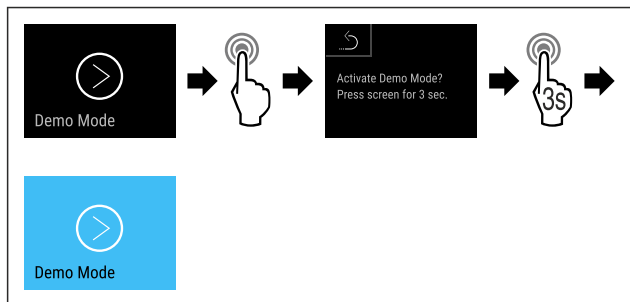

Fig. 159
- ▶ Complete steps (see Fig. 159) .